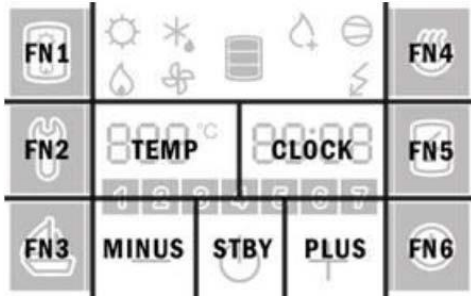

Fig. 12: Fields display
- By pressing the right number (Field **CLOCK** in Figure 12) you proceed to the next parameter.